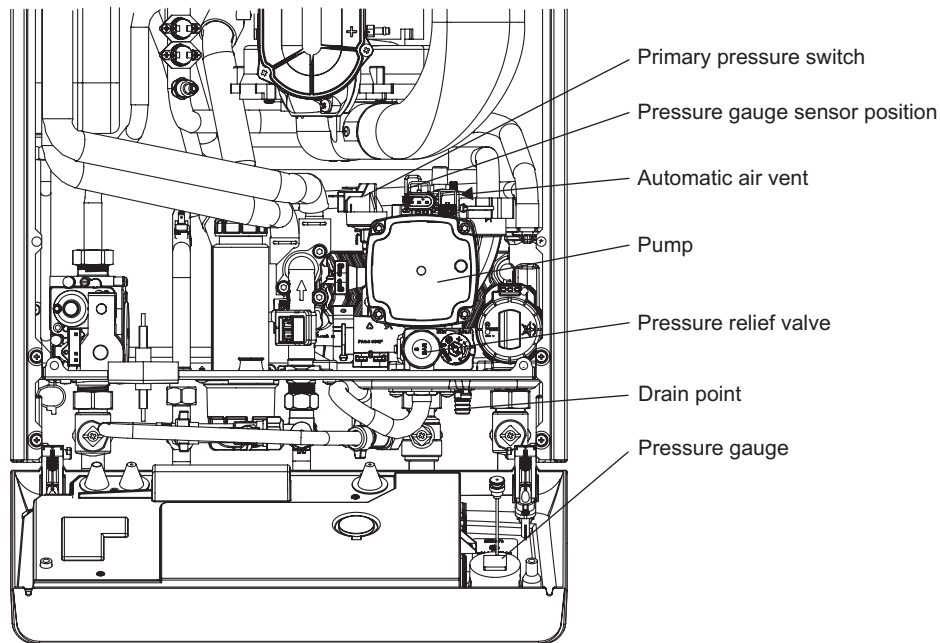

Fig. 7.5
7.20 PRESSURE GAUGE - Fig. 7.5
7.22 AUTOMATIC AIR VENT - Fig. 7.5
7.23 PUMP - Fig. 7.5
2. Connect the plug to the new head. Ensure the pump is set to maximum (3) and re-assemble in reverse order.
7.24 PRIMARY PRESSURE SWITCH - Fig. 7.5
7.25 PRESSURE RELIEF VALVE - Fig. 7.5